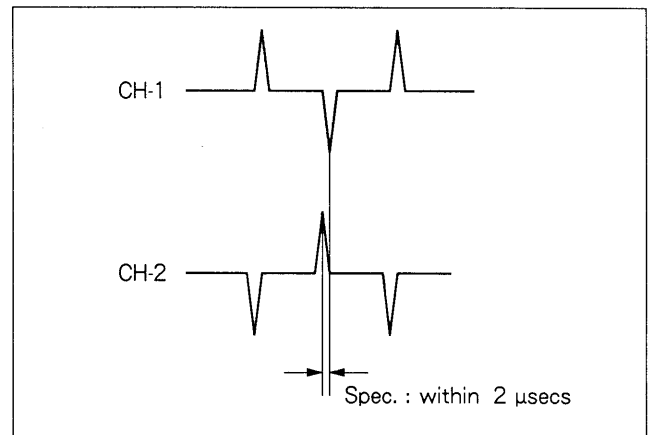

Fig. 9-6-2. Audio PB Head Azimuth Check
- (2) Set the time base of oscilloscope to 1 μ secs.
- (3) Check that the phase difference between CH-1 and CH-2 is within the specification shown in Fig. 9-6-2. If not, perform step 3 "Audio PB Head Azimuth Adjustment" in section 9-6-2.